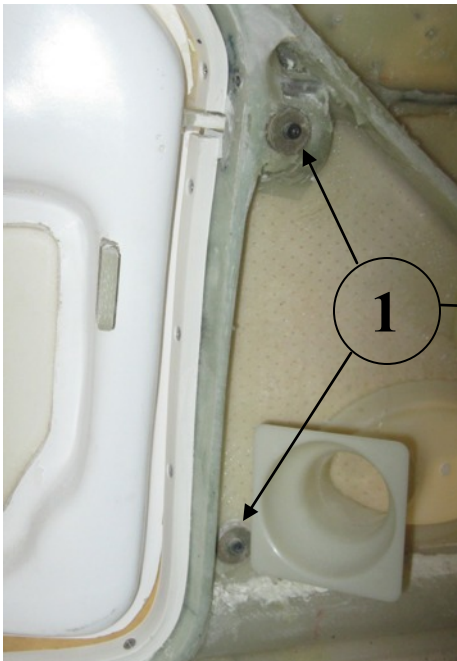
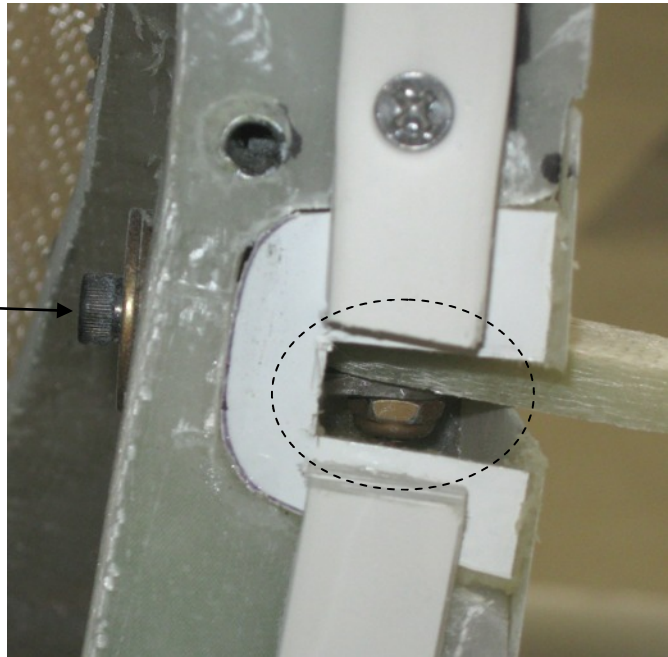

Figure 3-8: Interior door hinge bolts, new style (pilot's side)
Figure 3-9: Upper door hinge, new style (passenger side). File fiberglass as needed from dashed area to remove hinge hardware.
1. Access the hinge bolts by gently peeling back the upholstery adjacent to the door hinge. See Figure 3-8 for a view of the bolts before the fuselage is upholstered.
3. Remove the cap screws that hold the hinge into position (labeled "1" in Figures 3-8 and 3-9). Some filing of the fiberglass door frame or the lower fairing may be required to remove the hinge hardware, as shown by the dashed line in Figure 3-9. Avoid filing outer fuselage skin.